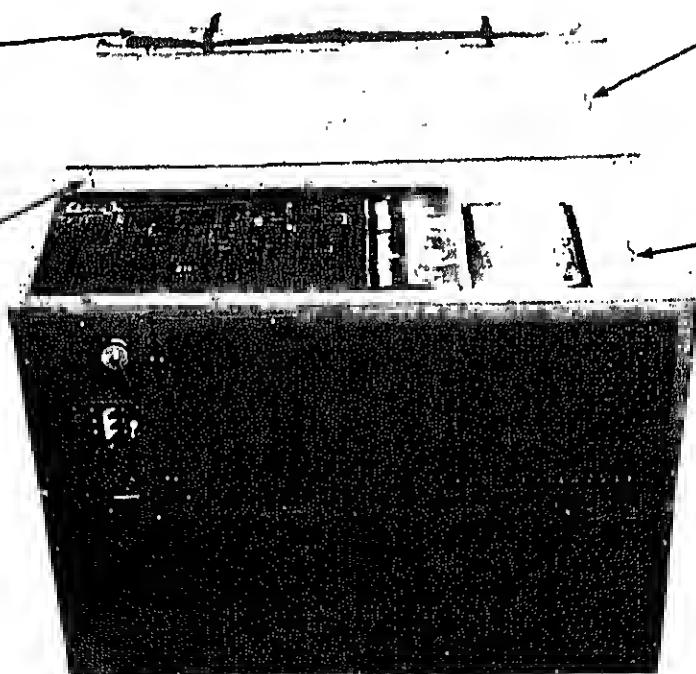

Figure 4-4. Top covers and condenser cover, removal and installation
(1) Refer to figure 4-4 and remove top front cover. Remove this cover first as it provides access to one screw of the center cover that is not visible from the outside.
(2) Remove condenser cover and top rear cover.
(3) Remove top center cover.
c. Installation. Refer to figure 4-4 and install top covers and condenser cover as follows:
(1) Install top center cover.
(2) Install top rear cover and condenser cover.
(3) Install top front cover.
a. Removal. Refer to figure 4-4 and remove evaporator inlet and outlet covers.
(1) Refer to figure 4-4 and remove
(2) Refer to figure 4-4 and replace top front cover.